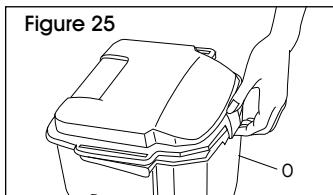

Figure 25
2. Unlatch back part of tank lid and remove lid. Empty tank. Pour dirty water out from the rear of the tank (O) (See Figure 25)